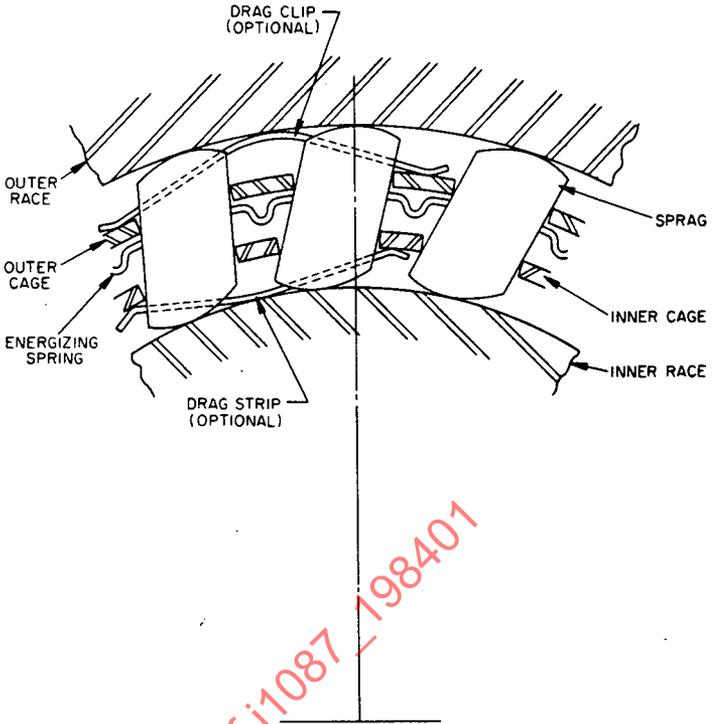

FIG. 6—TYPICAL DOUBLE-CAGE SPRAG ONE-WAY CLUTCH DIAGRAM
4.2.1 **CAGED SPRAG CLUTCH**—A clutch that utilizes one or more cages to space or control the sprag elements (See Figs. 6 and 7.)
4.3.4 **ENERGIZING SPRING**—A spring used to actuate the sprags into contact with the inner and outer races. (See Figs. 6–8.)
4.3.5 **CAGE**—An element primarily used to contain and space the sprags. (See Figs. 6 and 7.)
4.3.6 **DRAG CLIP**—An element sometimes used to provide frictional drag between the outer cage and the outer race. (See Fig. 6.)
4.3.7 **DRAG STRIP**—An element sometimes used to provide frictional drag between the inner cage and the inner race. (See Fig. 6.)